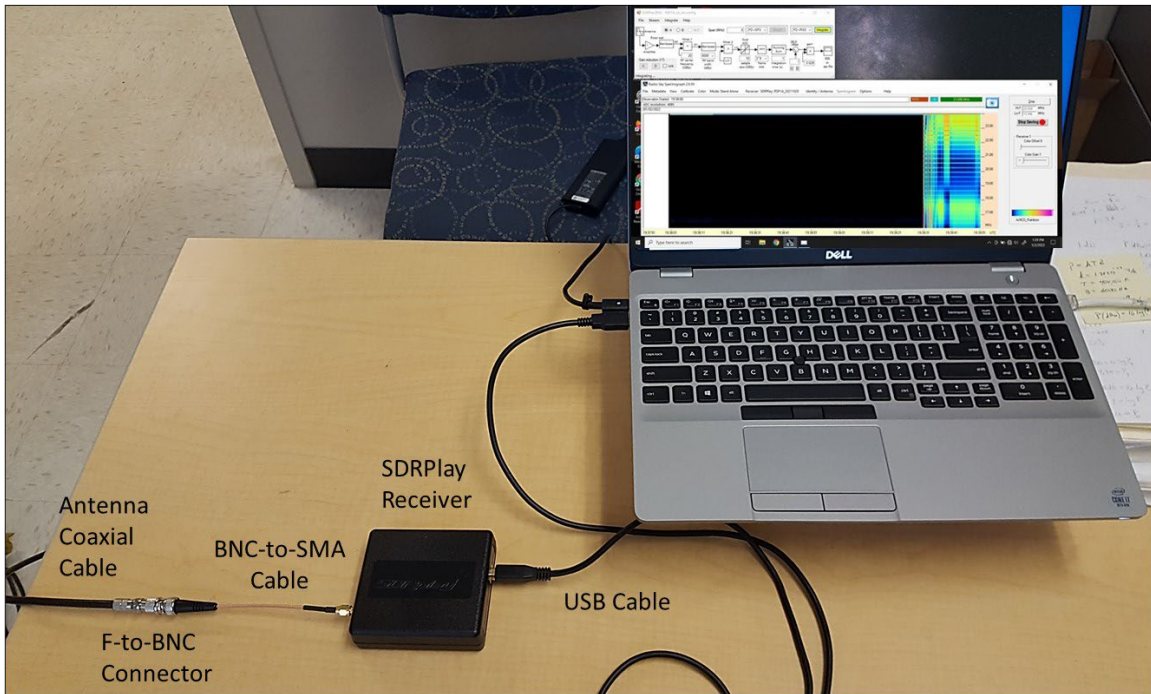

Figure 7.4 – SDRPlay receiver connections and setup with computer.
2. Connect all cables to the receiver as shown in Figure 7.4.